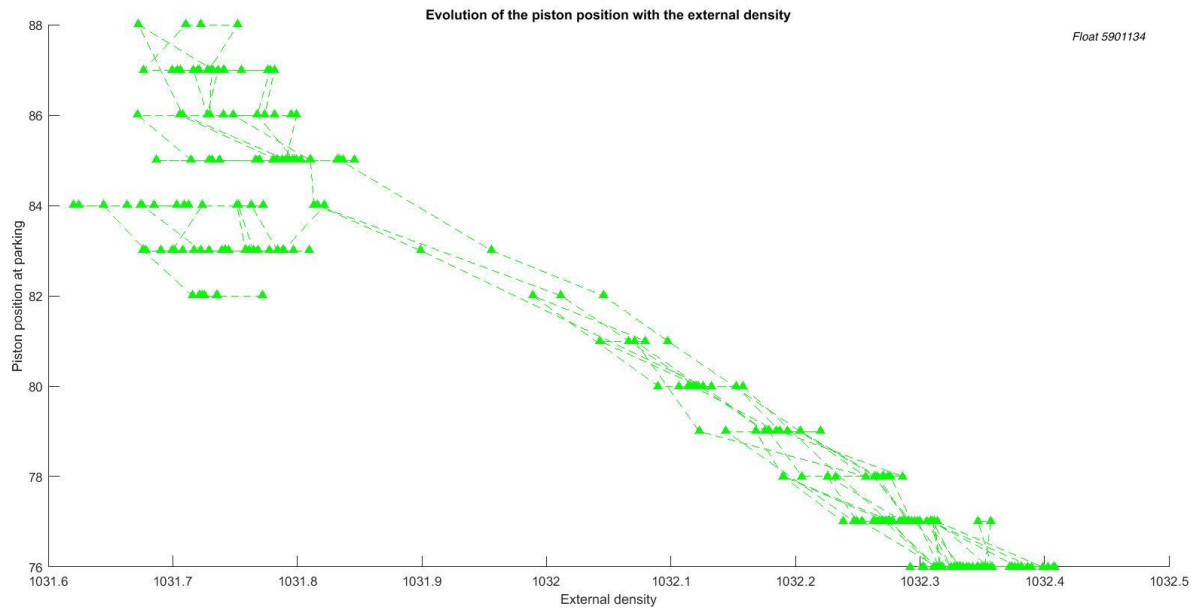

Figure 7: Evolution of the piston position with the external density for an healthy float.
Theoretically, because the buoyancy depends on the external density, the piston position should be directly linked to this parameter. Therefore, it is possible to plot the piston position at parking and to compare it with the external density. Thanks to figure 7 and 8, there are two important specific cases:
- **Figure 7:** the plot is very localized in the domain of study, there is a decrease trend of the piston position with the external density. Arguably, if the external density increases, the Archimedes force is higher, then the buoyancy of the float needs to decrease in order to stay at the same depth which explains why the piston position is lower.